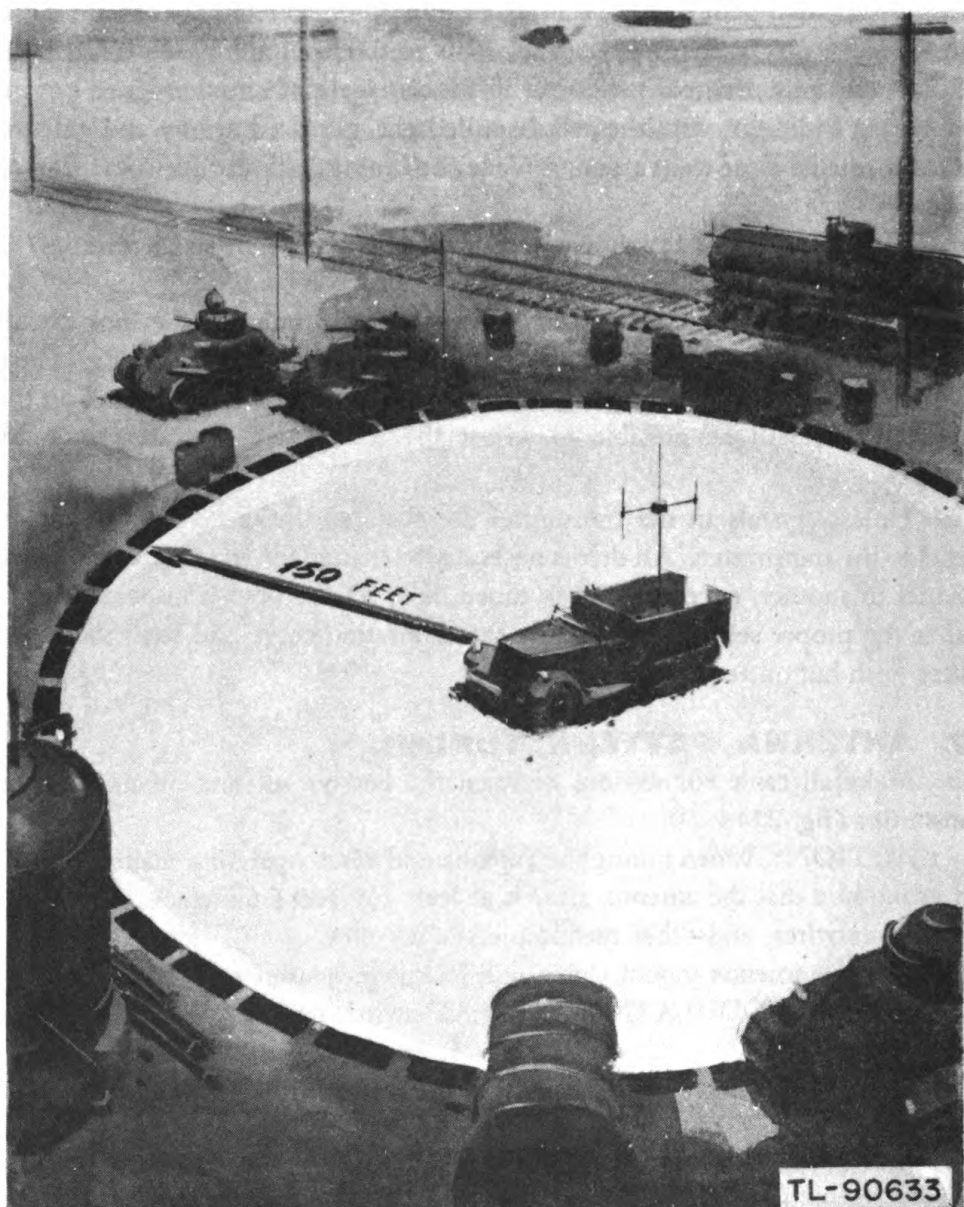

Figure 30. Beacon clearance.
**CAUTION:** When tuning the antenna and when operating the beacon make sure that the antenna array is at least 150 feet from trucks, tanks, power wires, and other metal objects (fig. 30).